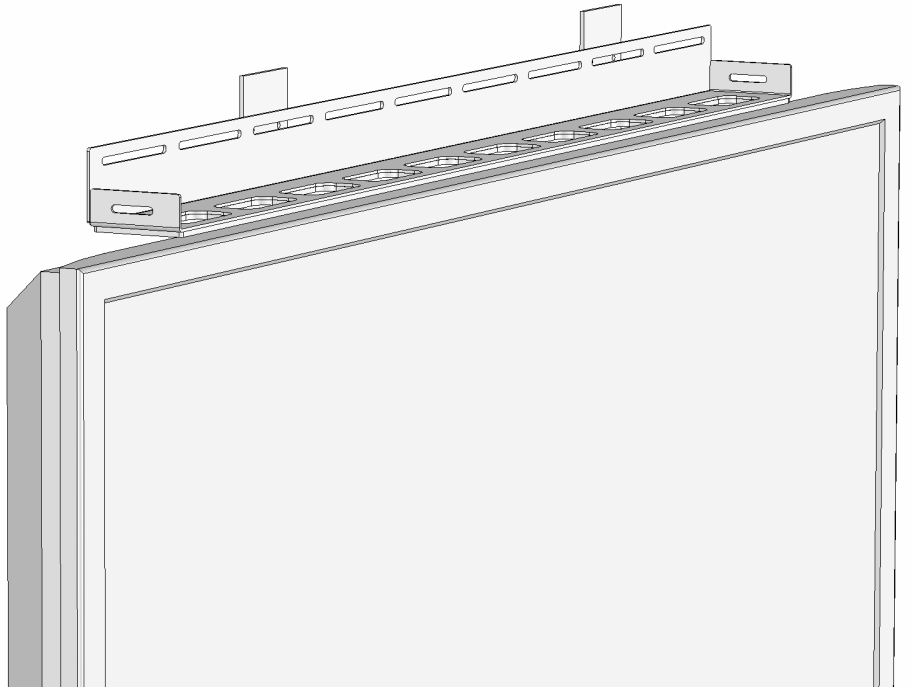

Figure 3
- 6.2 Attach the Main Bracket which comes attached to the SoundBar and install the bracket on the TMBs like shown in **Figure 3**. Use the 4 x 3 mm Allen Head Bracket to Bracket Screws which are supplied in your Hardware Kit.
NOTE: If installing the SoundBar on the top of a television, please refer to Figure 3.